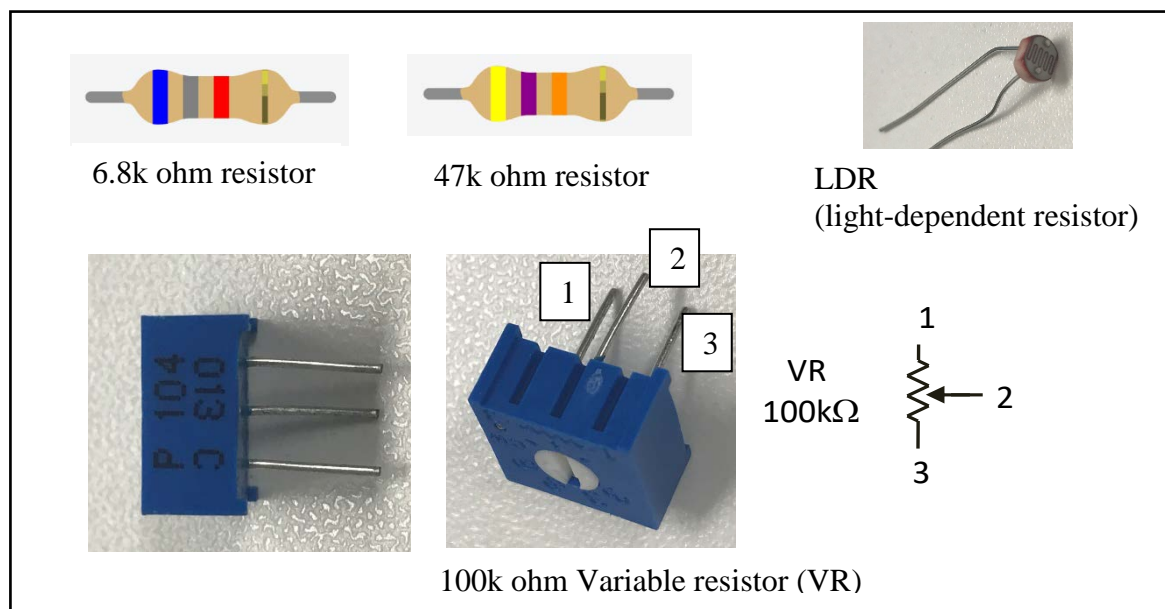

Fig. 19
5.2.4. The 6.8k ohm resistor, 47k ohm resistor, 100k ohm variable resistor (VR), and LDR (Light-dependent Resistor) are shown in Fig. 19. Connect LDR circuit shown in Fig. 20, and put all the components on the breadboard as shown in Fig. 21, 22, and 23. You could refer to the video (video6-LDR\_circuit.mp4) for demonstration.